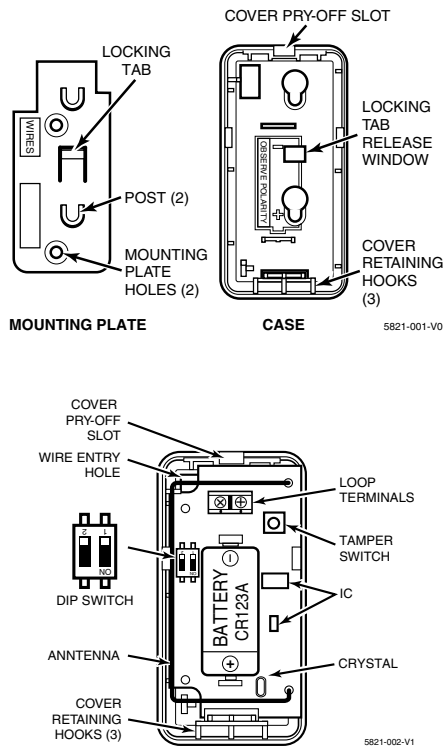

Figure 1
1. Remove the transmitter's top cover by inserting the flat blade of a small screwdriver into the pry-off slot at one end of the unit (see Figure 1 for location), and slightly twisting the blade until the cover disengages.
2. Install a 3-volt lithium battery as shown in Figure 1.
Once a good RF transmission path is confirmed, mount the detector as follows, referring to Figure 1.
1. Remove the transmitter's top cover by inserting the flat blade of a small screwdriver into the 'pry-off' slot at one end of the unit (see Fig. 1 for location), and slightly twisting the blade until the cover disengages.
3. Disengage the attached mounting plate from the case by inserting the blade of a small screwdriver into the locking tab release window (see Figure 1) and pressing it against the locking tab, while sliding the mounting plate upward along the case back until free.
5. For surface wiring entry, two thin "breakout" areas are provided in the case wall (see Figure 1).
7. With the battery still not inserted, connect the wires to the unit's sensor terminals (see Figure 1).